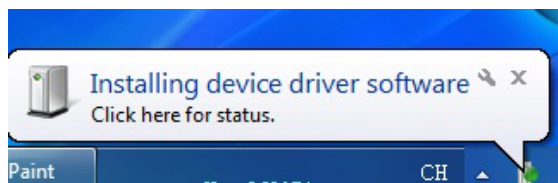

Fig. 1
1. You may plug the device into host computer. And then it will pop up 'Installing device driver software' from the taskbar of the screen. (Fig. 1) Click and connect to the Windows Update.